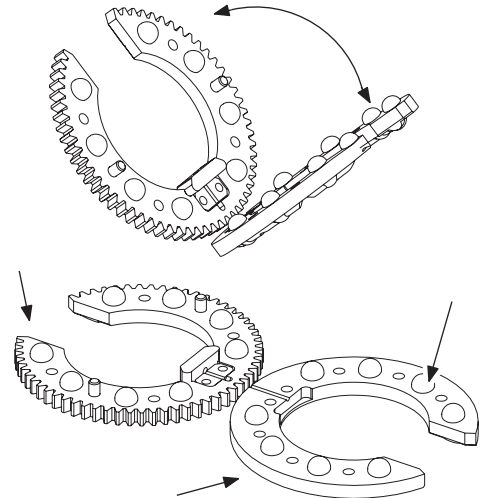

Figure 34 Separating the Gear Ring from the Brush Ring
3. Completely separate the gear ring from the brush ring as shown in Figure 34. Lay the rings flat on the work surface.